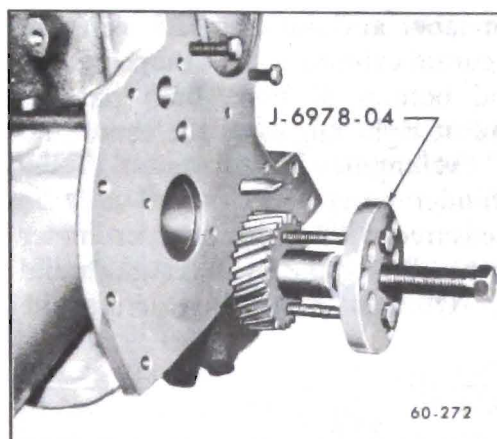
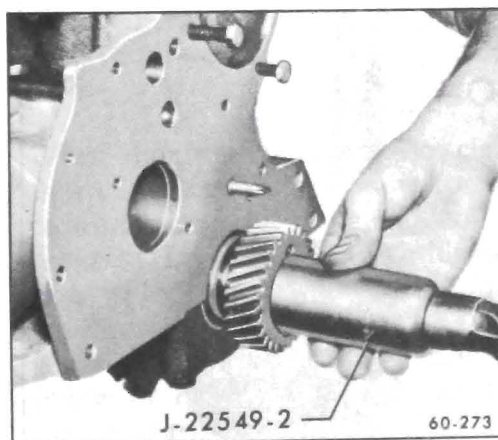

Figure 60-134--Removing Crankshaft Gear
Figure 60-135--Installing Crankshaft Gear
1. With camshaft removed, crankshaft gear may be removed using Tool J-6978. See Figure 60-134. To install crankshaft gear use Tools shown in Figure 60-135.